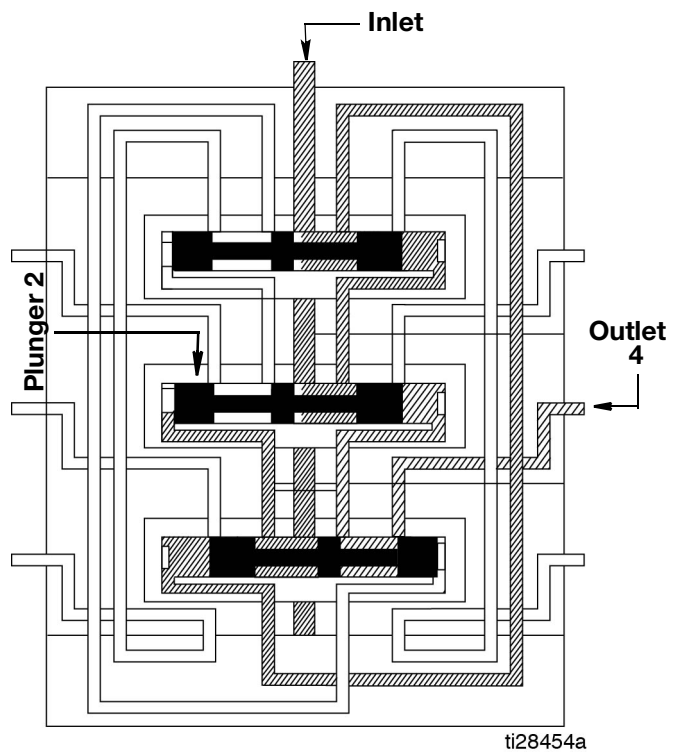

FIG. 11
2. Plunger 2 opens, delivering lubricant to Outlet 4 (FIG. 11).